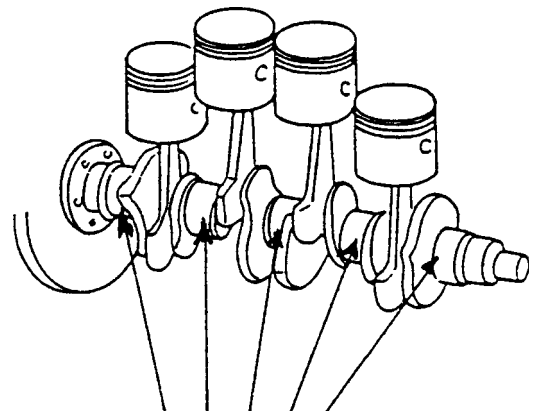

Fig. 1.42 Points of fluid friction
- **Fluid friction** (hydrodynamic friction) A film of fluid prevents contact between two materials, for example between the rotating crankshaft journal and the bearing. A film of oil under pressure ensures that the two metal surfaces slide over one another. The only friction that occurs is between the oil particles themselves. These have less resistance to sliding over one another than solid surfaces have. This reduces friction to a minimum resulting in minimum heat and therefore minimum wear (Fig. 1.42).